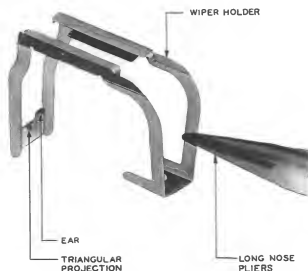

Fig. 8 — Grasping Wiper Holder With Long-Nose Pliers
3.10 Wiper Holder: To replace a wiper holder, mount the 613A clamp as covered in 3.04. Loosen the brush frame clamping screw with the 555A wrench and remove the bracket or front guide. Using the 619A adjuster, depress the strap wire extending across the rear of the commutator. To remove the holder, slip the split ends of the holder over the brush rod and push the holder to the rear. Before mounting a new wiper holder on frames not equipped with rear guides, check the rear of the brush frame and guide studs for wear. If they are reaching a point where trouble might be experienced, give consideration to mounting a P-463341 guide as covered in 3.24 through 3.27. To mount a new wiper holder, grasp one of the legs at the split end with the long-nose pliers as shown in Fig. 8. Insert the holder at one side of the commutator around which it is to be placed so that the split end of the holder is at the rear of the commutator. Then, using the KS-6320 orange stick, spread the legs of the holder just enough
the holder toward the rear and press down equally on both sides until the triangular projections (see Fig. 8) and the two ears on the inside of the holder slip over the tab of the rear guide. Then proceed as covered in 3.13. Using the 376A dental mirror, make sure that the triangular projection on the holder engages the undersurface of the commutator brush frame through the slot in the rear guide.